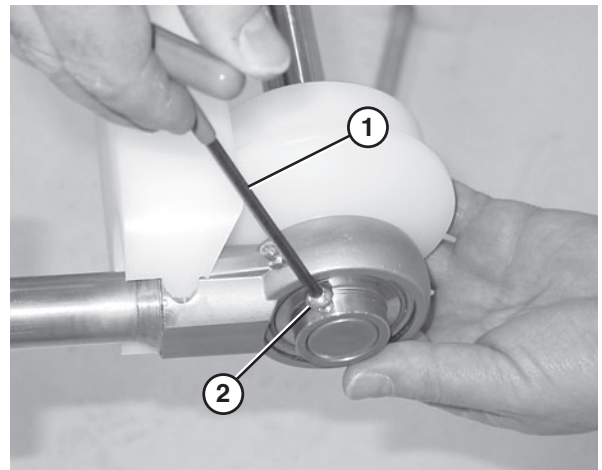

Figure 72
5. Use a hex wrench (**Figure 72, item 1**) to tighten the bearing shaft fasteners (**Figure 72, item 2**).